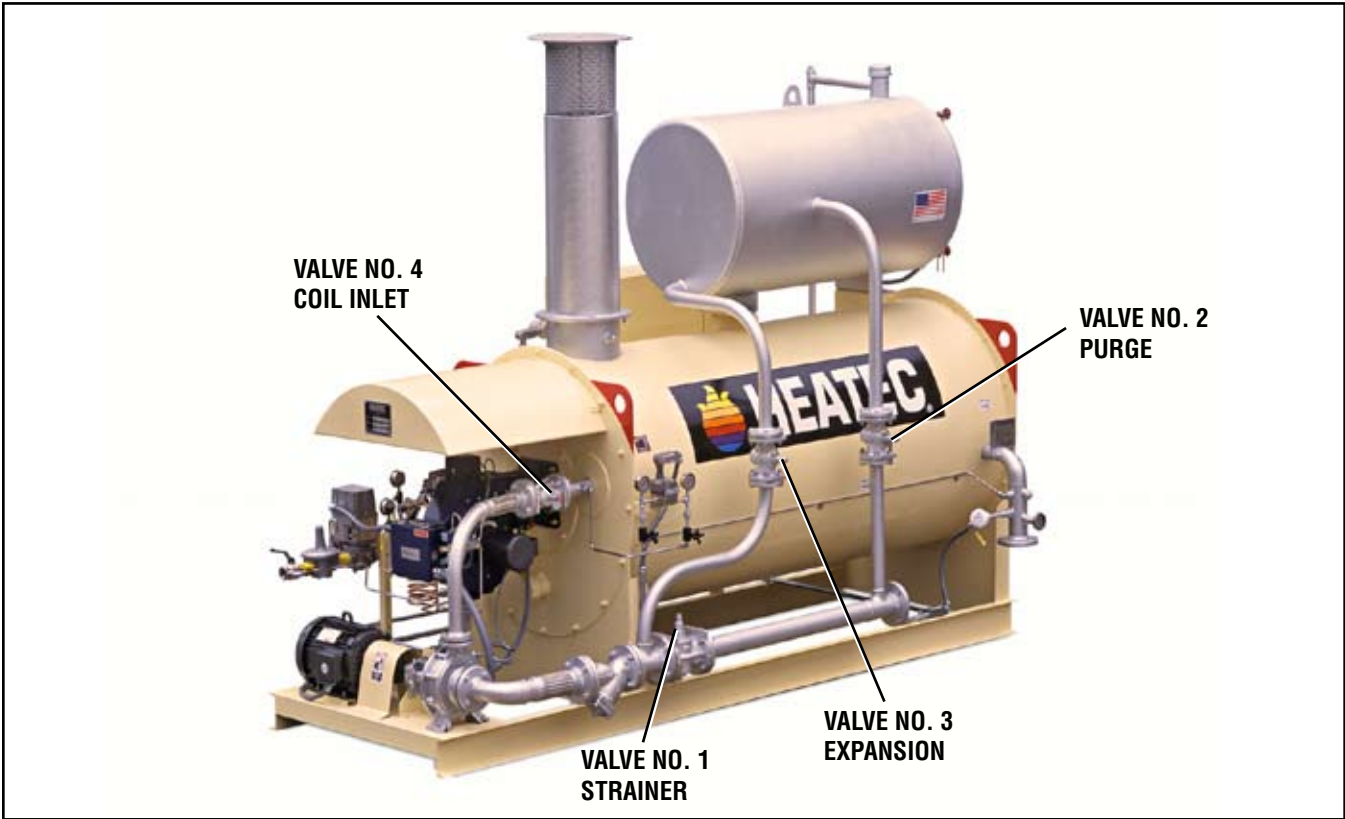

Figure 2. Heatec HCS (single line) thermal fluid heater (no side pumps).
Pressure differentials for HCS heaters (**Figure 2**), which are heaters *without* side pumps) vary according to the installation and according to size of the heater. Appropriate settings for the pressure differential switches must be determined during initial startup of the heater.
Step 1. Close valves 1 and 2. Leave valves 3 and 4 open (**Figures 2 and 3**).
Step 5. Open valves 1 and 2. (**Figures 2 and 3**.)